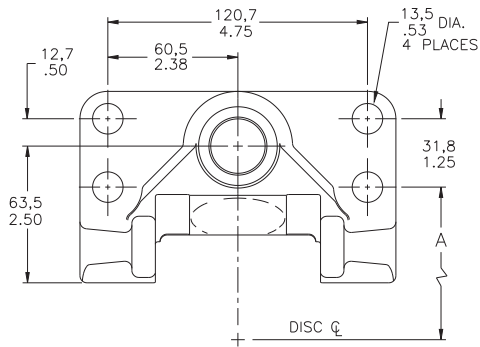

FIGURE 3
- Using TABLE 2 and Figures 3 and 4 on page 2 determine "A" dimension and locate mounting bracket assembly holes.